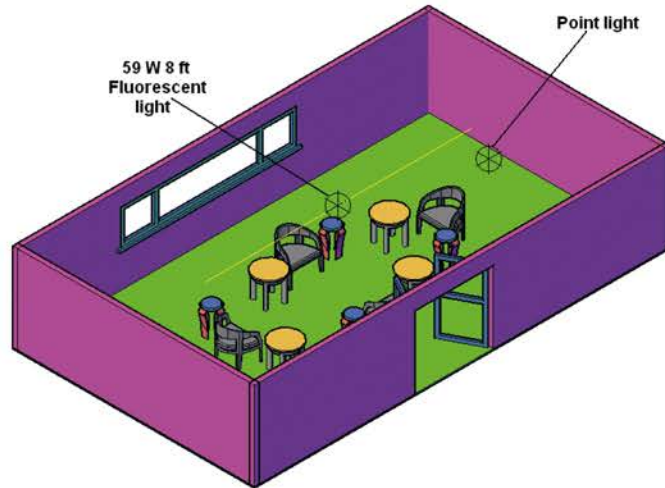

Fig. 16.43 Two lights placed in the room
2. Place a **Point light** in the bottom right-hand central corner of the room (Fig. 16.43).